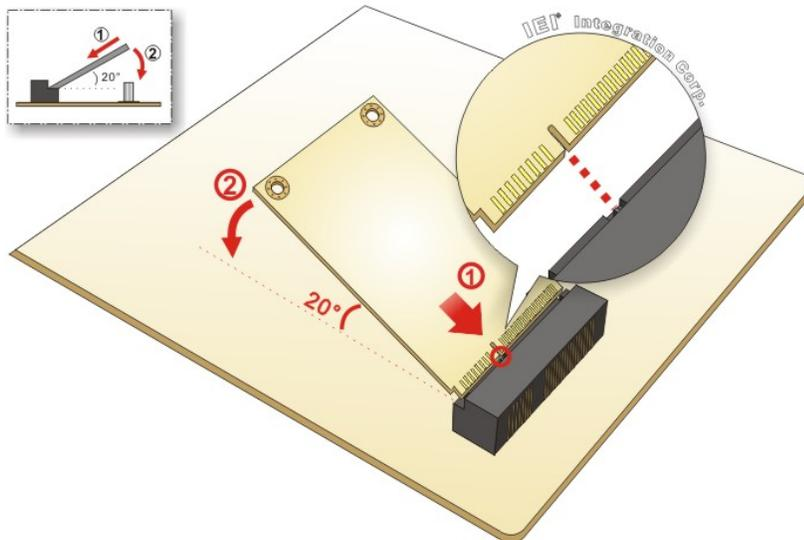

Figure 4-9: Inserting the Full-size PCIe Mini Card into the Slot at an Angle
Step 3: **Insert into the socket at an angle.** Line up the notch on the card with the notch on the slot. Slide the PCIe Mini card into the socket at an angle of about 20° (Figure 4-9).